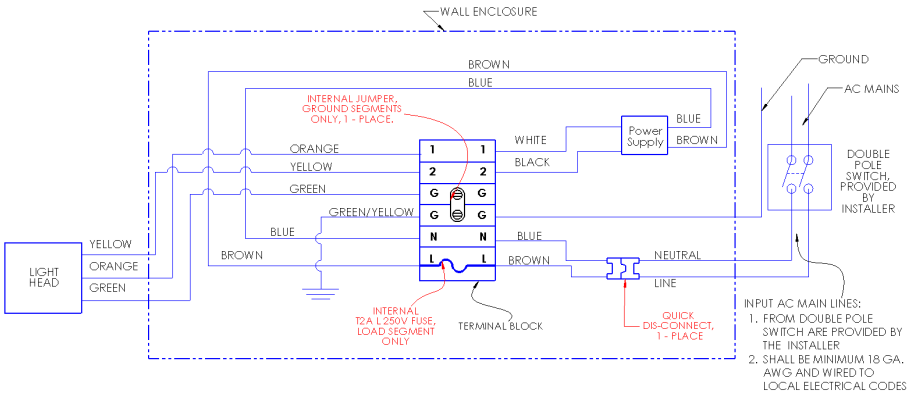

Figure 26A: Wall mount wiring diagram.
1. Route conduit and electrical lines from wall switch to wall mount. Connect green ground wire to either of green terminal blocks labeled with ground symbol. Connect Line and Neutral wire to orange quick disconnect connector, refer to Figure 26A & B. **NOTE:** the terminal block is marked with numbers and electrical symbols to designate correct wiring.
Route conduit and electrical lines from wall switch to ceiling mount through junction box. Connect green ground wire to either of green terminal blocks labeled with ground symbol. Connect Line and Neutral wire to orange quick disconnect connector, refer to Figure 26A & B. **NOTE:** The terminal block is marked with numbers and electrical symbols to designate correct wiring.